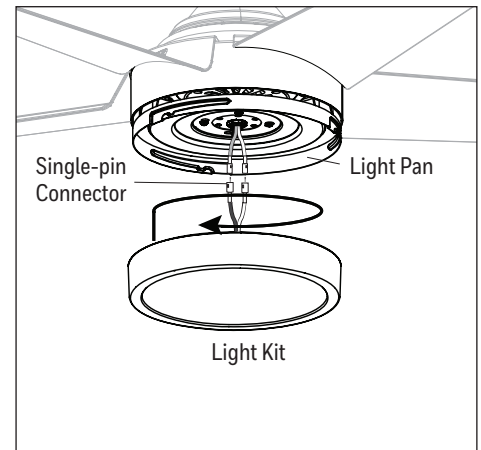

Figure 5.6
6. Connect the single-pin connectors from the fitter plate to the single-pin connectors from the light kit -- blue to black and white to white. Attach the light kit to the light pan by twisting the light kit firmly in a clockwise direction until it is secure. **CAUTION:** Avoid cross-threading the light kit during installation. Improper installation could cause the light kit to be difficult to remove or fall, which could cause serious injury (Figure 5.6).